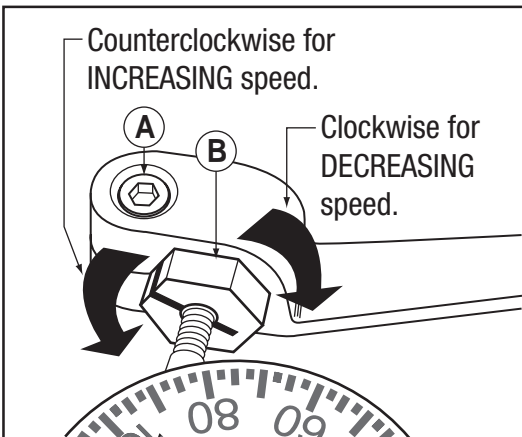

Fig. 3-19 Adjustment Bracket & Collar
If the Corrected counter is indicating a faster time than the Uncorrected counter, loosen the #4-40 socket head cap screw (A) in the adjustment bracket and turn the adjustment collar (B) clockwise. (Looking at the hex face as shown in Fig. 3-19) If the Corrected counter is indicating a slower time than the Uncorrected counter, turn the adjustment collar counter-clockwise.